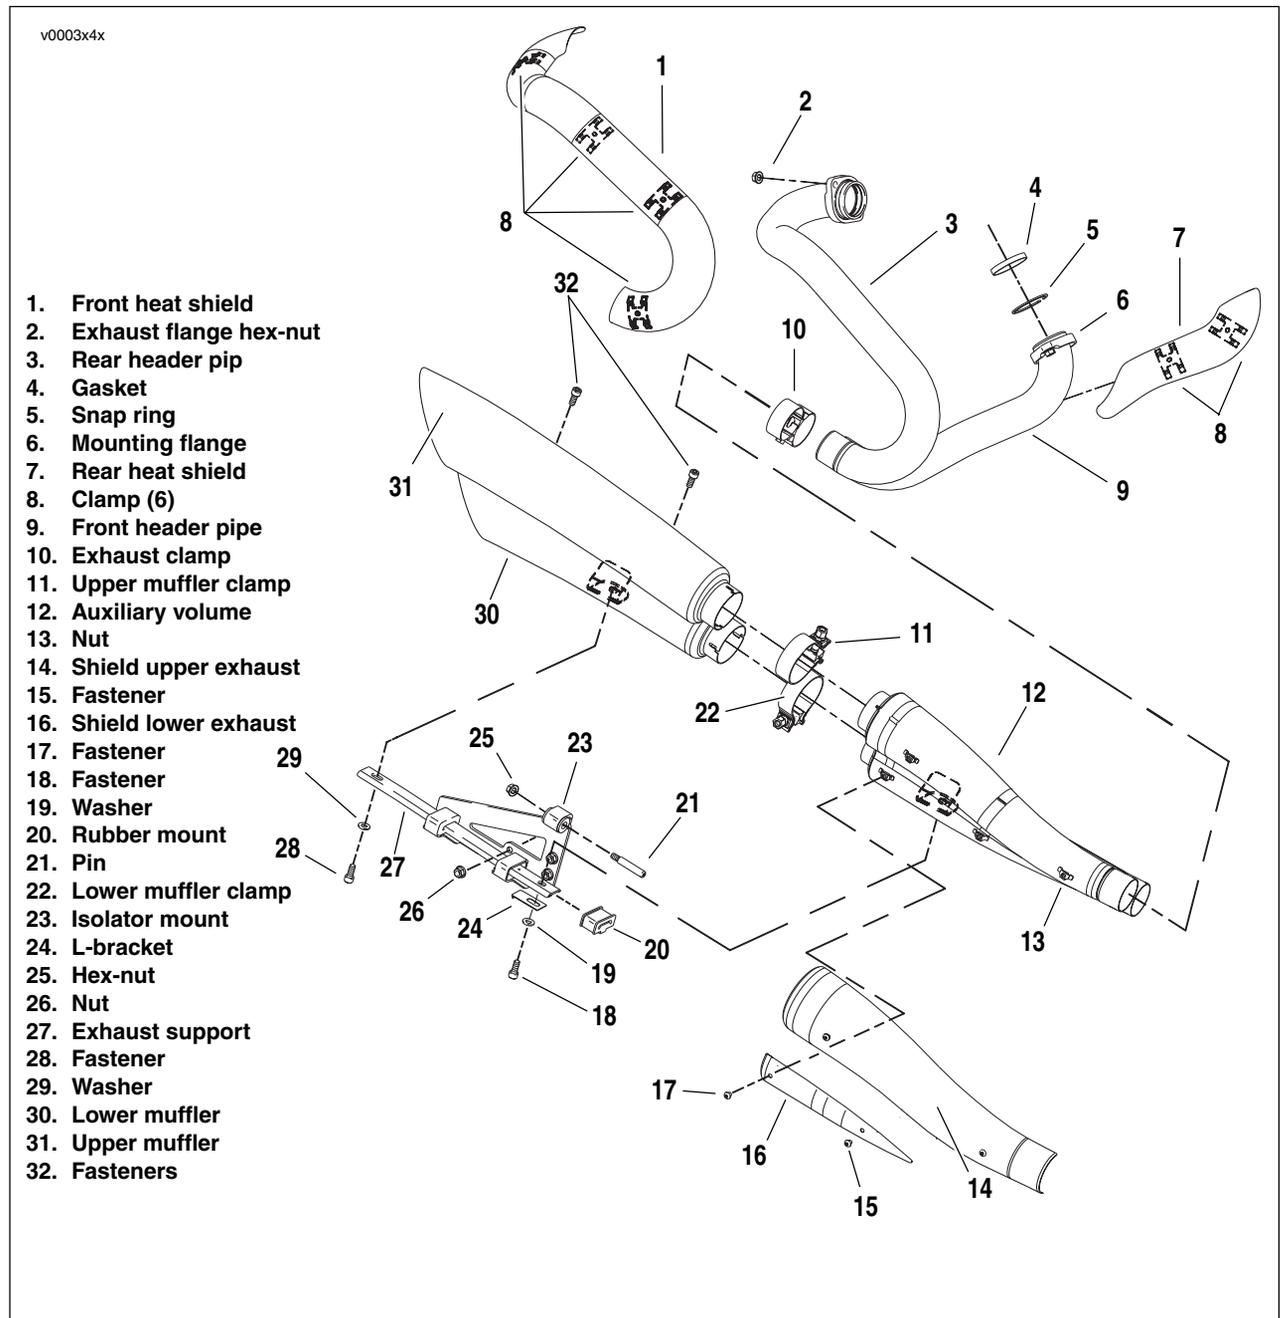

Figure 2-6. Exhaust System
2. See Figure 2-6. Loosen upper muffler clamp (11).
2. See Figure 2-6. Gently lift the lower muffler, auxiliary volume, and header pipe assembly into position.